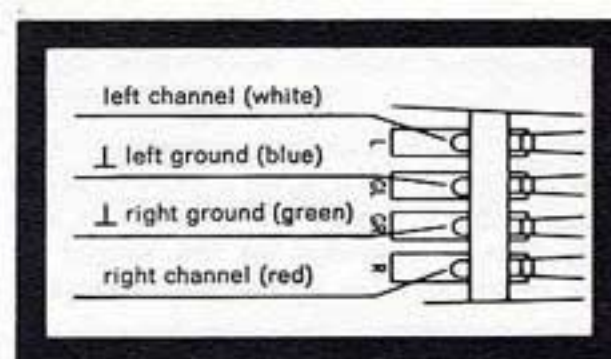

Fig. 15
4. Connect each lead on the cartridge holder to its corresponding pin on the cartridge. Each lead is color-coded as shown in fig. 15.